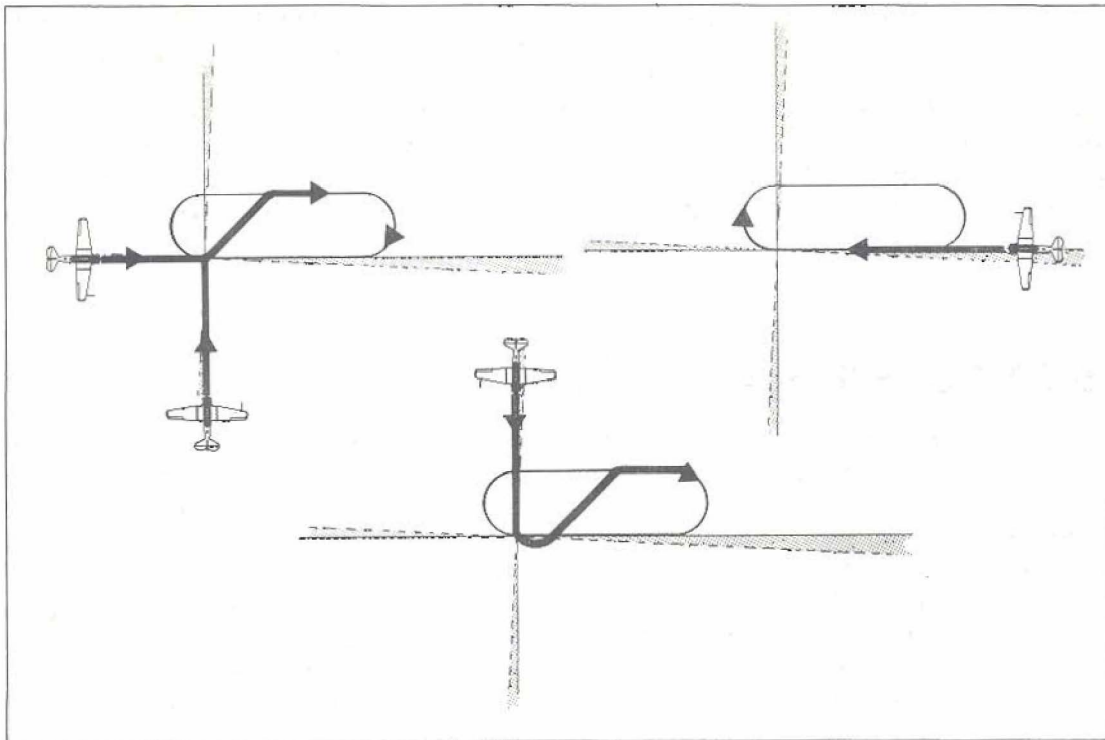

Figure 7: Radio Range Holding Patterns
(1) BRACKETING - "Bracketing the beam" is the name given to a method of flying down a known radio range leg while gradually eliminating drift. The amount of each alteration of heading, or "bracket", is reduced steadily until a course can be flown which allows a constant beam signal to be received. During the first part of this procedure the aircraft is flown down the "twilight" of the beam, since the "on-course" signal is three miles wide, 60 miles from the radio range transmitter. Half a mile from the transmitter the "on-course" narrows to 132 feet. By flying the "twilight" until the beam narrows, the pilot can be sure of his approximate lateral position and can be sure of having adequate lateral separation from other aircraft using the facility.
(2) STANDARD BRACKETING - A practical method of "bracketing the beam" is to fly the aircraft on a course which intercepts the beam at an angle of 30 degrees. On receipt of the first "on-course" signal, the aircraft is turned to intercept the right side of the "on-course" at 30 degrees. As soon as the beam has been crossed and the first "twilight" signal is received, you must turn onto the magnetic heading of the range leg. If the aircraft begins to drift out of the "twilight", one of two signal changes is possible. If you hear the "on-course", you must alter course 30 degrees to the right, away from the beam heading. On regaining the "twilight", the aircraft is turned to the left an amount estimated to eliminate drift, the procedure being repeated until a constant "twilight" is received. If the aircraft drifts into the "bi-signal zone", the alterations of course are made in the opposite directions until a constant "twilight" is regained.
(3) HOLDING - The procedure for holding on a radio range leg is almost identical to that of an ADF Holding, except that the indication of your position is received aurally rather than visually. Examples of entries and holding patterns are shown in Figure 7 overleaf.
(4) THE STANDARD RANGE APPROACH - The mechanics of the Standard Range Approach are the same as for the ADF let-down. "Station Passage" however is indicated by a "cone of silence" when passing directly overhead, or by a rapid change of signal, if passing close by. The procedure is to follow the beam to the facility until "Station Passage" is received. At this